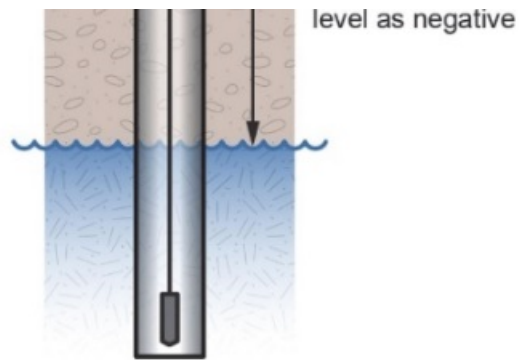

Figure 1: Water level is below reference point
- Note this as a negative number if the water level surface is below the reference point, such as groundwater level referenced to the top of the well (**Figure 1**).